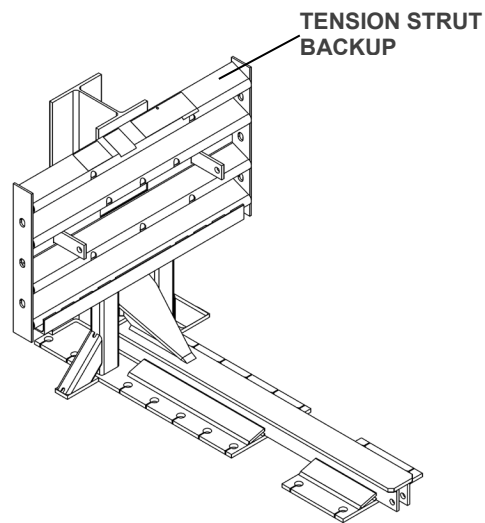

Figure 19
B) Tension Strut Backup Assembly (Figure 19)